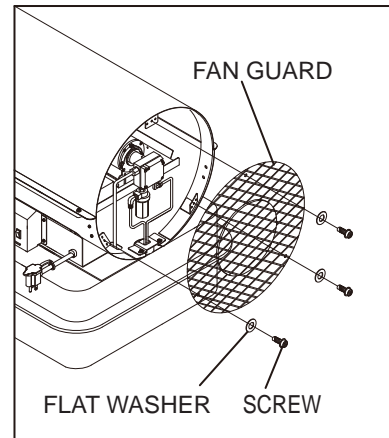

Figure 13. Remove fan guard
- Remove fan guard (See Figure 13)
- Use 3/8" wrench and tighten fuel lines (B) at pump, pump fuel filter assembly.